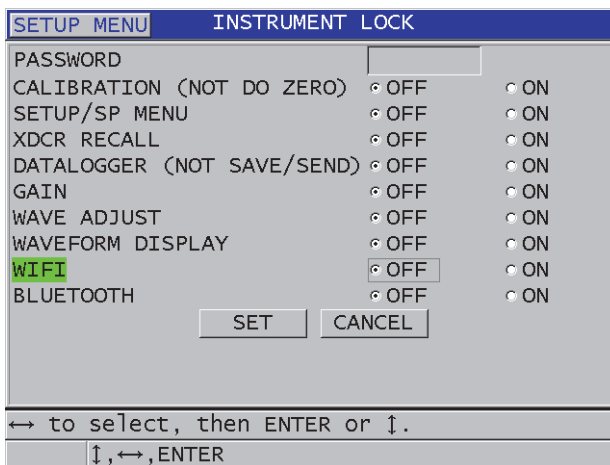

Figure 8-9 The INSTRUMENT LOCK screen
3. In the **INSTRUMENT LOCK** screen (see Figure 8-9 on page 144):